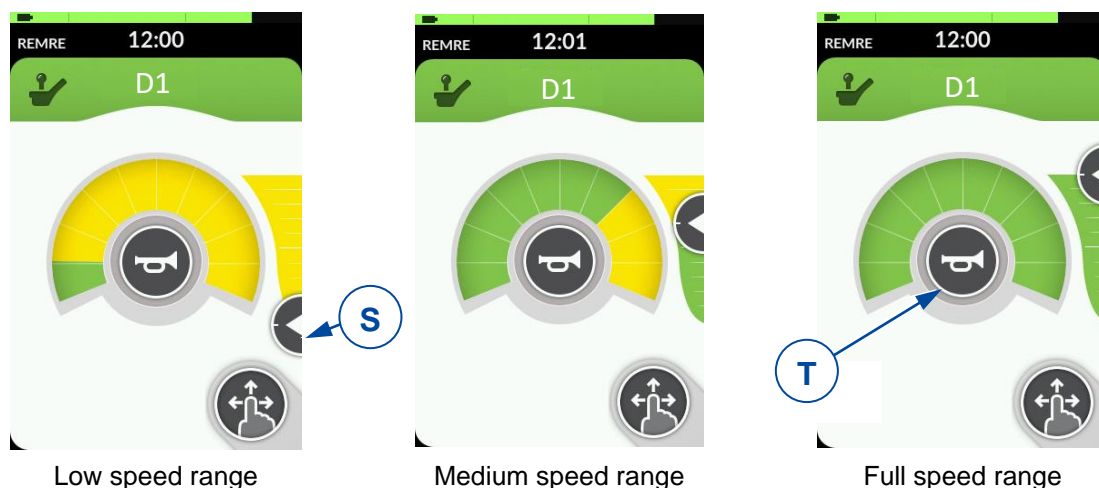

Figure 15 *Adjusting speed range*
- the backrest inclination exceeds a certain angle (see figure 15):